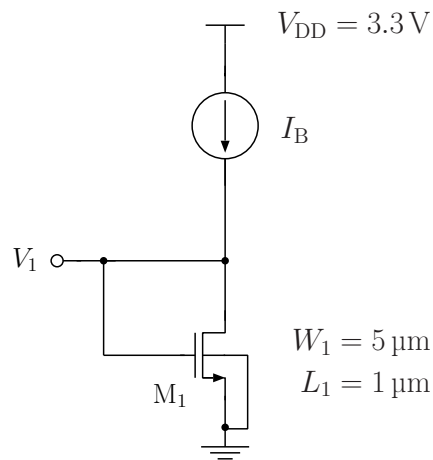
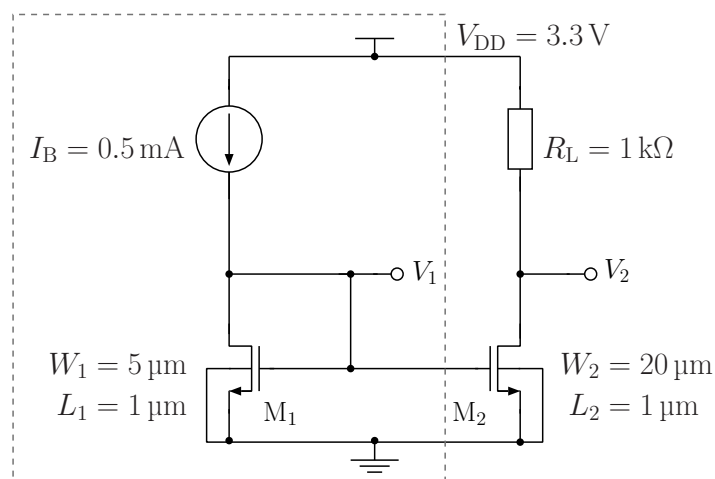

Figure 2: Simple diode-connected NMOS transistor.
Figure 3: Simple MOSFET current mirror.
Consider the diode-connected transistor shown in Figure 2 and answer the following questions:
- Is the transistor M_1 in Figure 2 in saturation assuming $I_B = 0.5$ mA?
An additional transistor M_2 and a resistor R_L are added to the circuit in Figure 2 resulting in the circuit in Figure 3. Answer the following questions: